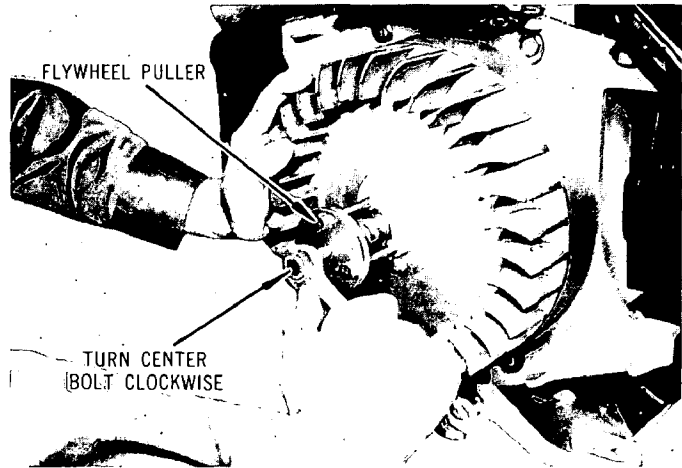

Fig. 6-4-3
- 4) If cooling blower cannot be pulled off by hand, attach puller to blower and turn center bolt clockwise until blower becomes sufficiently loose to be removed. (see Fig. 6-4-3)